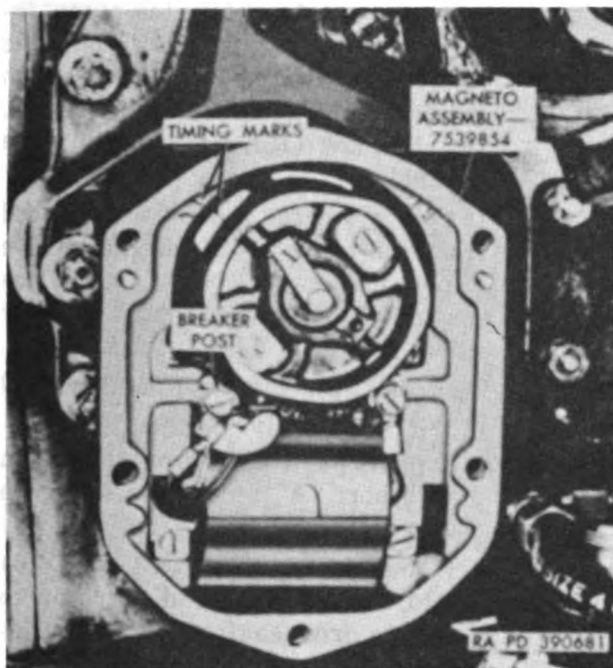

Figure 181. Magneto timing marks (early model AOSI-895-5M engines only).
- (3) If engine is early model AOSI-895-5M engine equipped with early model Bendix Scintilla magneto assembly 7539854, remove hex-head lockwasher screws and remove covers and gaskets. Aline timing marks on magneto as shown in figure 181.
- NOTE: On magneto assembly 7539854 only, clip positive leads to magneto breaker posts (fig. 181).
- (8) Clip ground (black) lead of magneto timing light to one of the magneto housings.
- (9) Place magneto timing light switch in "ON" position. Rotate magnetos on their mounts, as necessary, to make both lights just come on. Hold magnetos in position and secure by tight-